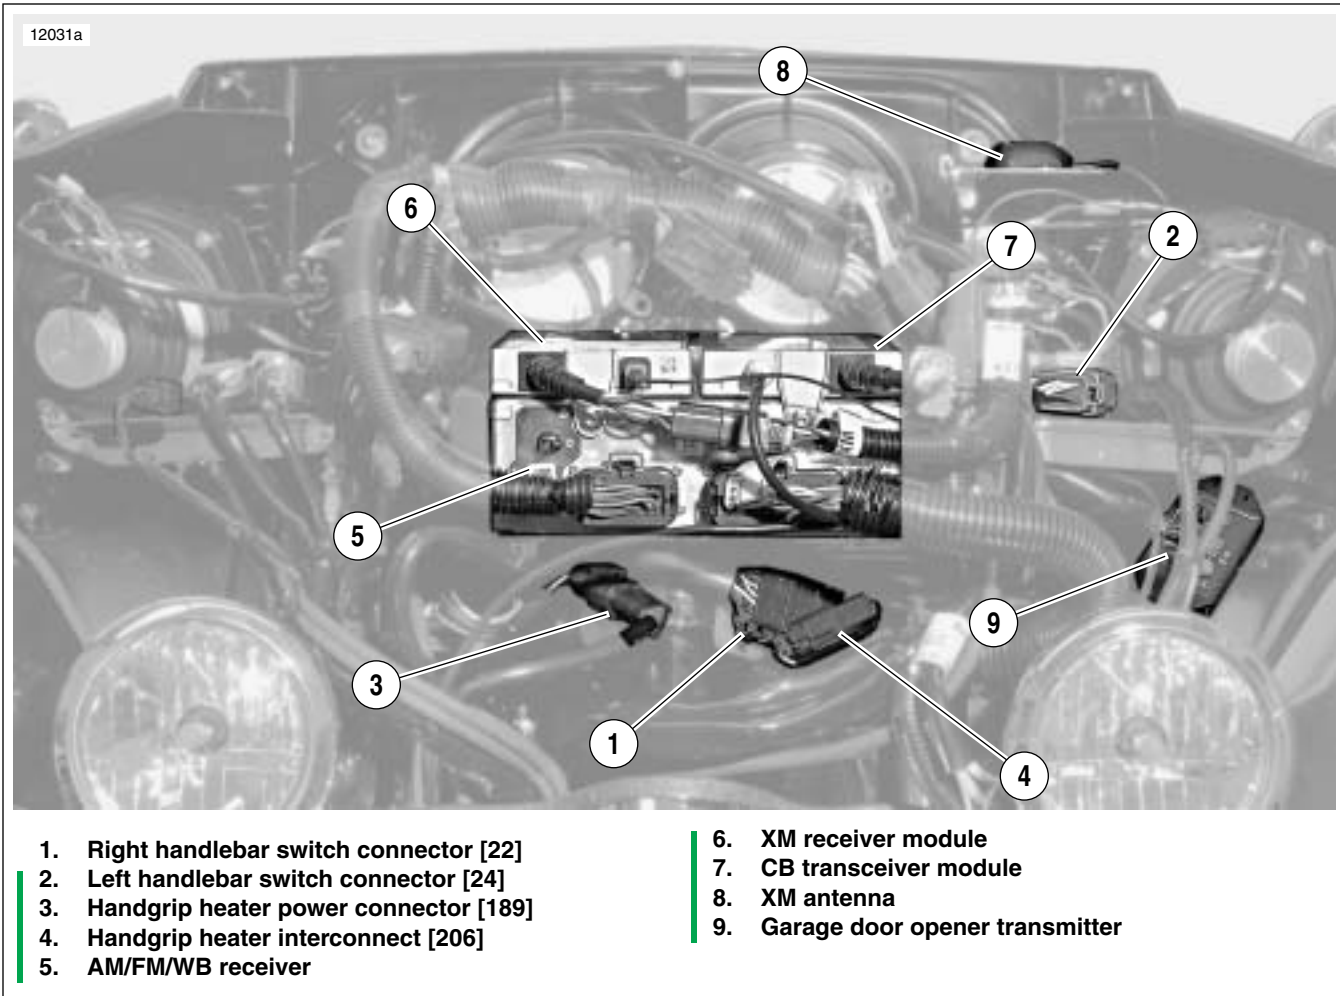

Figure 2-9. Handlebar Control Connectors, Radio and Garage Door Components
3. See Figure 2-9. Separate handlebar switch connectors [22] (1) and [24] (2). Separate heated handgrip power harness connector [189] (3). Disengage connector housings from locating pins.